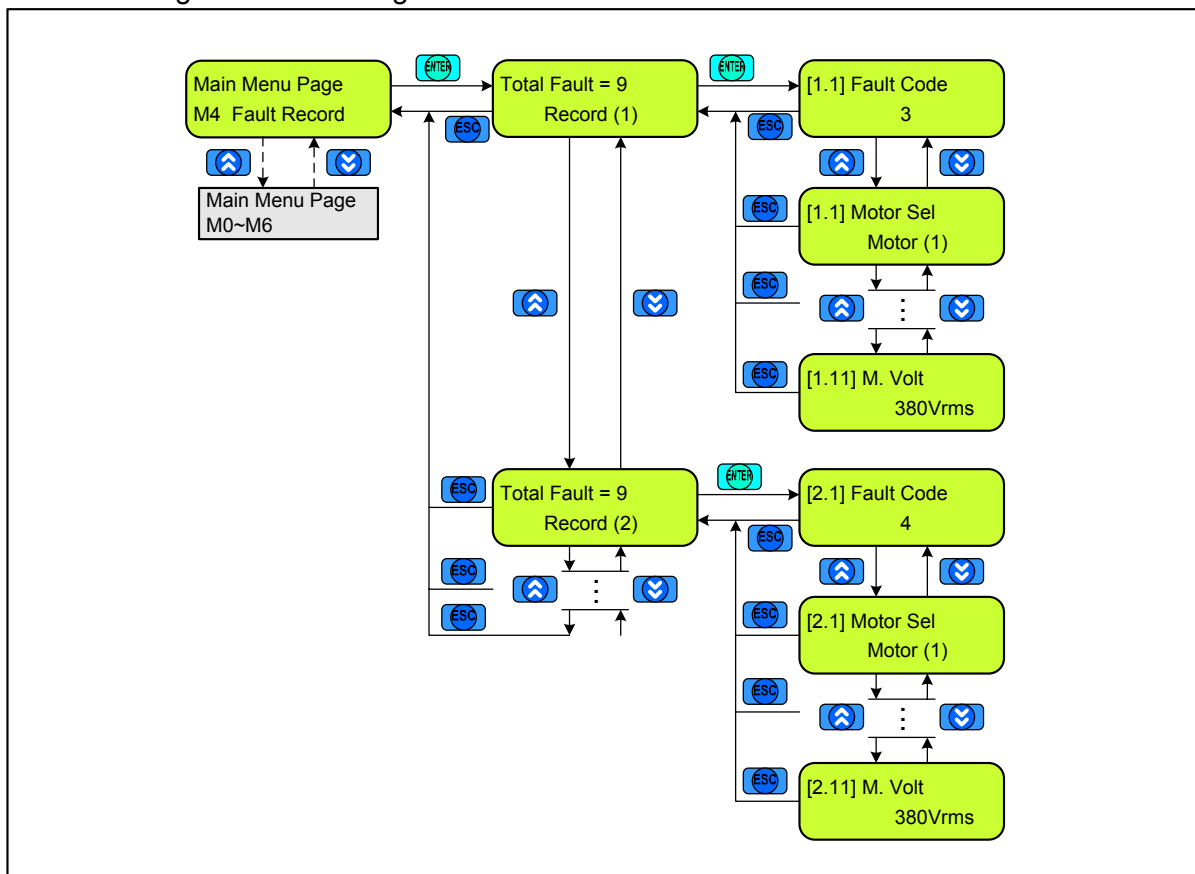

Figure 6.2-6 M4 Fault Record Menu Page
In M4 Fault record page, users can monitor the number of Faults, Fault code and operation status when it occurs. Total 9 Faults are saved from Record(1) to the last occurred Fault. If Faults are occurred more than 9, the oldest Fault record is erased. Refer to Figure 6.2-6 for KEYPAD usage and the setting instruction.